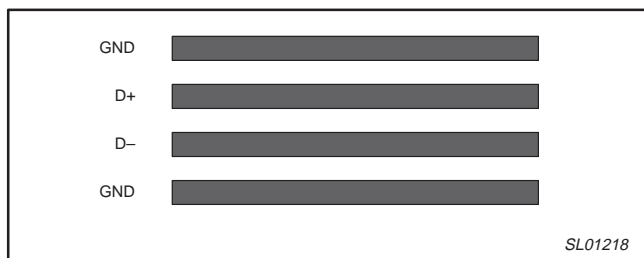

Figure 12. PCB layout for D+ and D-
- Route the D+ and D- lines in parallel and close together with ground guards enclosed (refer to Figure 12).